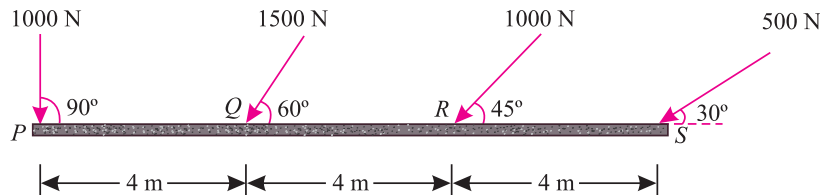

Fig. 2.7.
**Solution.** The system of the given forces is shown in Fig. 2.7